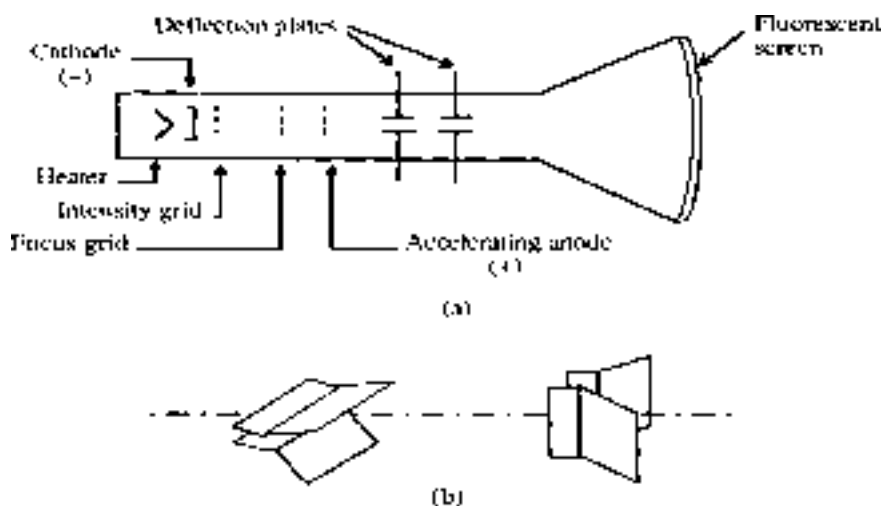

Figure 1. Cathode ray tube: (a) schematic, (b) detail of the deflection plates.
An oscilloscope is a laboratory instrument commonly used to display and analyze the waveform of electronic signals. The cathode-ray oscilloscope (CRO) is a common laboratory instrument that provides accurate time and amplitude measurements of voltage signals over a wide range of frequencies. A typical oscilloscope can display alternating current (AC) or pulsating direct current (DC) waveforms having a frequency as low as approximately. Its reliability, stability, and ease of operation make it suitable as a general-purpose laboratory instrument. The heart of the CRO is a cathode-ray tube shown schematically in Fig. 1.